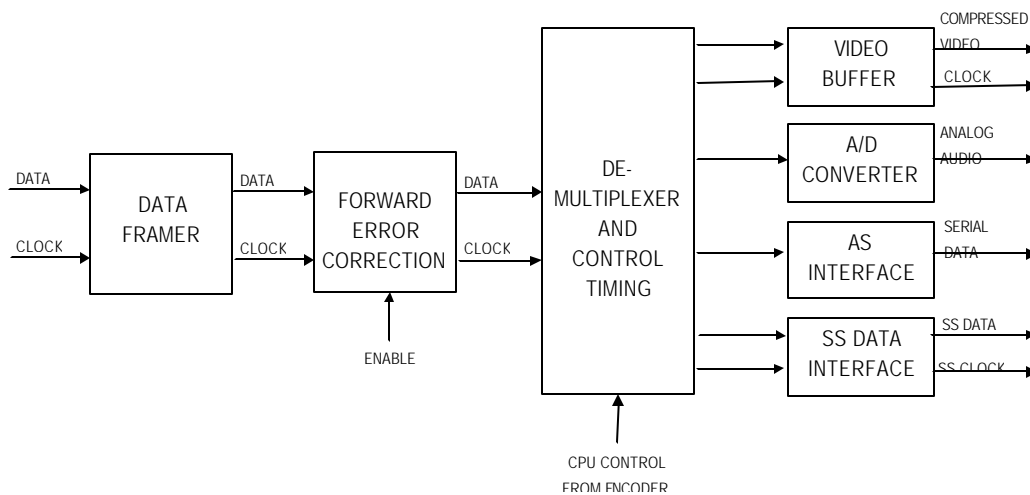

Figure 1-3 DMUX1000 Data Demultiplexer Functional Block Diagram
The DMUX1000 Data Demultiplexer de-multiplexes the data that was combined with the compressed video stream by the ADVS[®] encoder (Figure 1-3) and outputs the data on separate user accessible ports. The system can combine compressed video, audio, Asynchronous Serial (AS) and Synchronous Serial (SS) digital data into one transmission over any digital transmission facility. The audio data channel output is a 1 Vpp, 600 Ohm audio signal with a frequency response of 300 Hz to 3000 Hz. The simplex asynchronous data channel is an EIA-232 interface and is user programmable from 300 baud to 9600 baud in five steps. The SS synchronous data channel outputs SS data and clock. SS output level is EIA-422 or TTL. The user supplied SS clock rate may be as high as 49% of the total transmission link frequency. Additionally, a Forward Error Correction (FEC) feature is available for systems using wireless transmission. FEC is discussed in more detail in the following paragraphs.